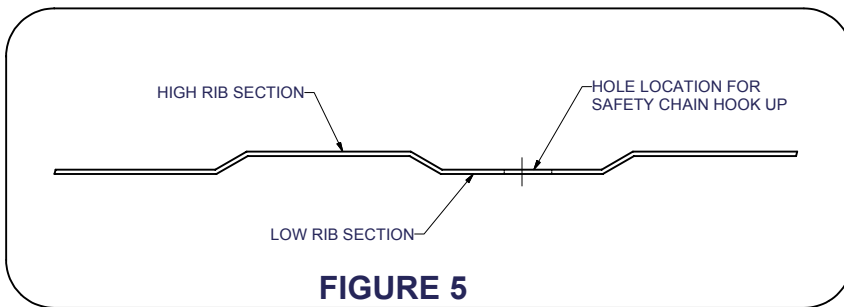

FIGURE 5
- 10) From inside the truck bed, position the drilling template as it was under the vehicle in step 9. Place a 1/4" bolt thru the template and the new hole in the bed. Use a tape measure to square the drilling template by measuring from the tail gate end of bed to the template. Using a 5/8" drill bit, drill the center of each slotted hole in template. **(Note: Be sure the holes are drilled in the lower part of ribs of the truck bed as shown in Figure 5.)**